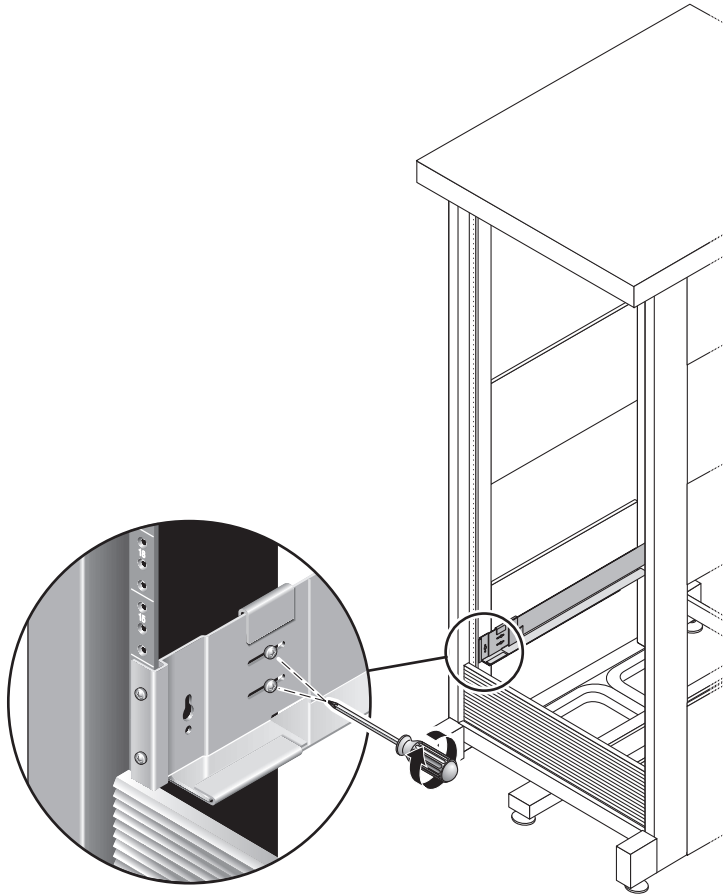

FIGURE 2-7 Tightening the Adjusting Screws
- Using the No. 2 Phillips screwdriver, tighten the four adjusting screws (two on each side) toward the back of each rail (FIGURE 2-7).